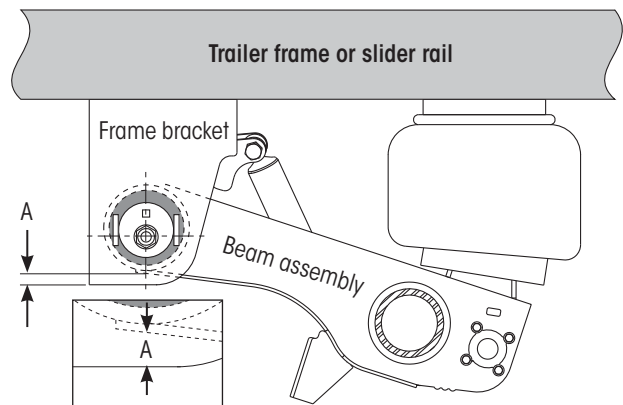

Figure 2: Pivot bushing measurement A (unloaded trailer recommended)
1. With the suspension at ride height, **measure** from the bottom of the beam assembly to the bottom of the frame bracket (Figure 2).